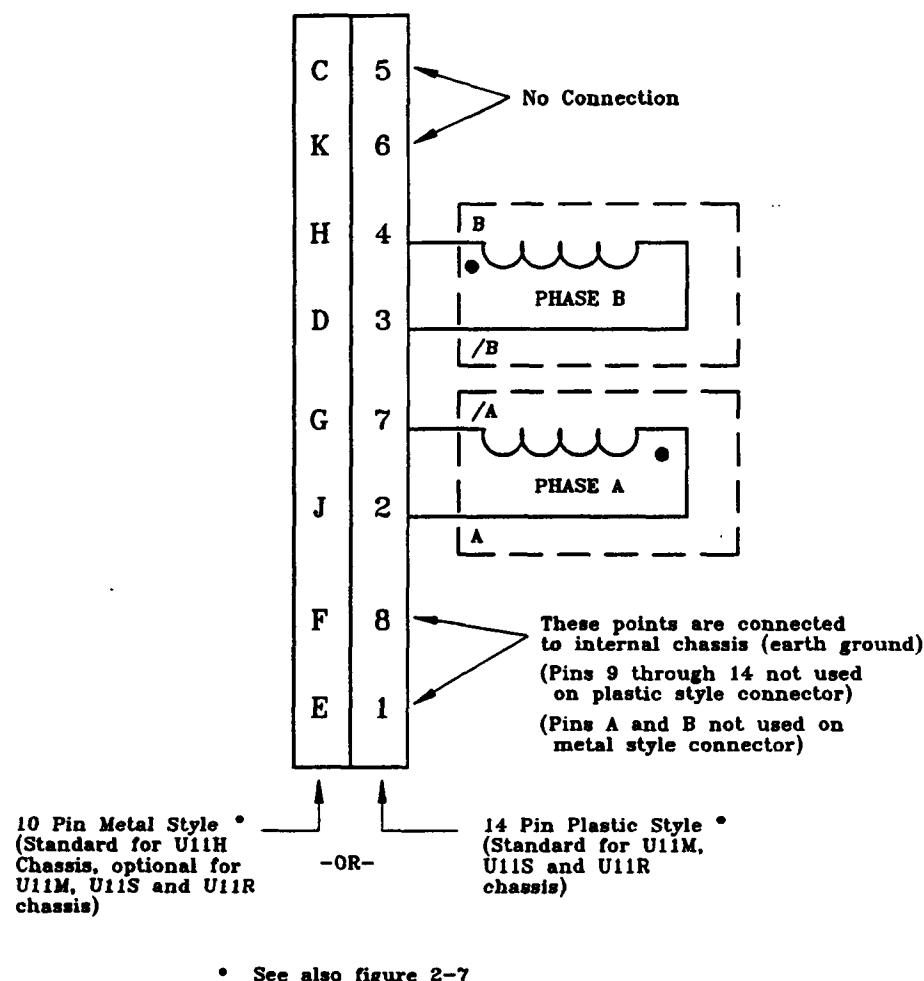

Figure 2-8: Outline of Connections for "Bipolar" Wound Stepping Motor
* See also figures 2-8, 2-9 and 2-10
wound or "unipolar" wound, as shown in figures 2-6 and 2-7 respectively. DC servo motor termination is shown in figure 2-8.
It should be noted that if the Unidex 11 is supplied with Aerotech motors and cables, you need not concern yourself with the detailed wiring termination shown in figures 2-8, 2-9, 2-10 and 2-11.